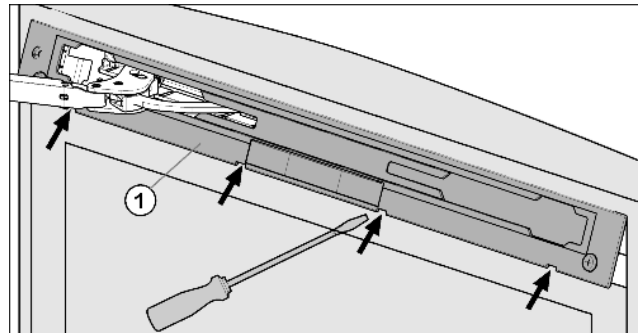

Fig. 25
- ▶ Release panel Fig. 25 (1) using slotted screwdriver and remove.